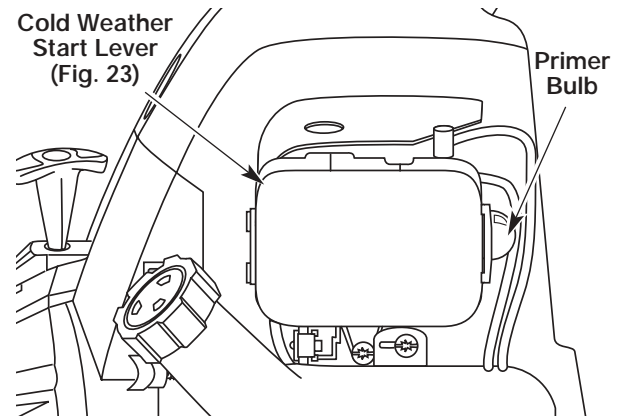

Fig. 21
3. Fully press and release the primer bulb 10 times, slowly. Some amount of **fuel should be visible in the primer bulb** and fuel lines (Fig. 21). If you can't see fuel in the bulb, press and release the bulb as many times as it takes before you can see fuel in it.